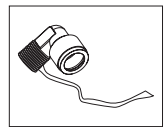

Fig. 5
- 5) Remove old Teflon tape (Fig. 5).